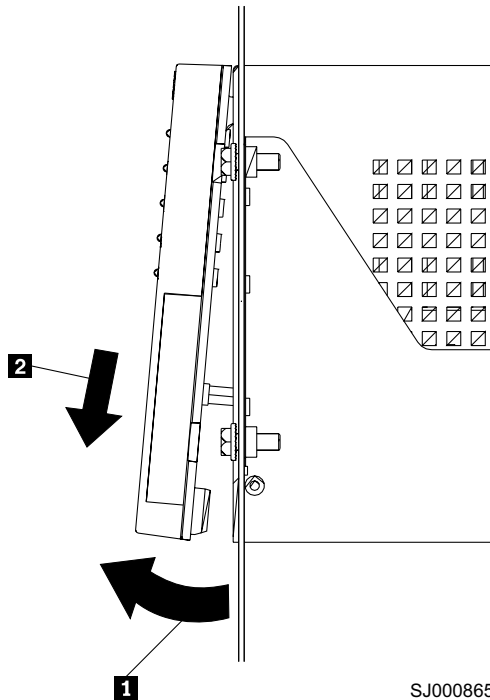

Figure 9. Removing the controller-unit bezel (machine types 3552 and 1742)
1. Remove the front bezel from the storage subsystem, as shown in Figure 9. Carefully pull the bottom of the bezel out **1** to release the pins; then, slide the bezel down **2**.